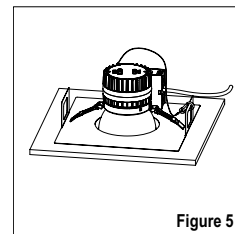

Figure 5
7. Once downlight is inside the ceiling and housing, release the spring clips and push the fixture up into the ceiling until securely fixed and flush with the ceiling (rotating the downlight may be necessary to properly engage the spring clips and ensure a secure fit). (See Fig. 5)